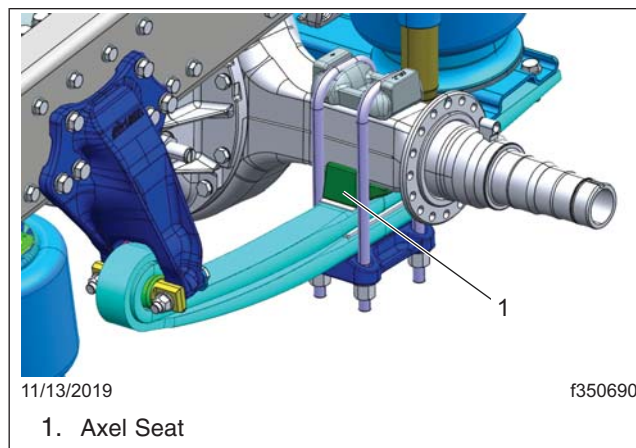

Fig. 1, Airliner Suspension Rear Rear Drive Axle
7. Locate the welded axles located on the bottom of the axle housing. See **Fig. 1**.